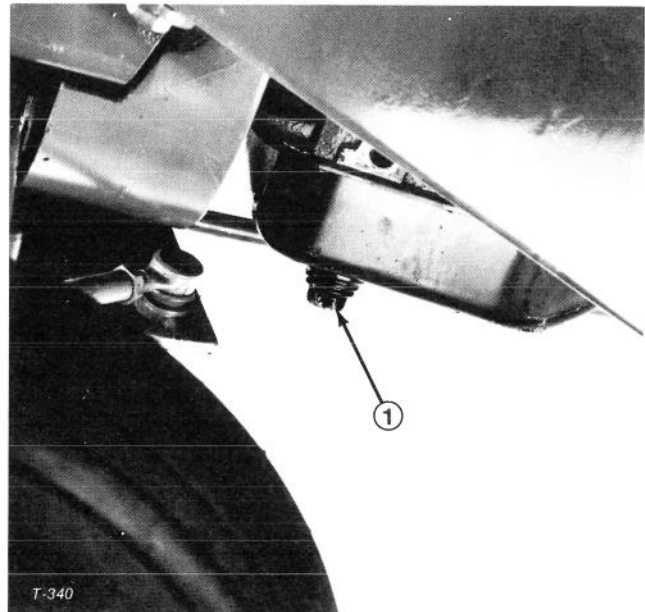

Figure 43
2. Disengage hood latch and open the hood. Set drain pan under the housing and in line with drain plug (Fig. 43).